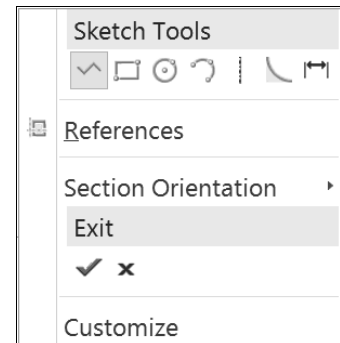

Figure 17 RMB pop-up menu in Sketcher
- hold down the RMB and select *Line Chain* from the top row in the pop-up menu (Figure 17).